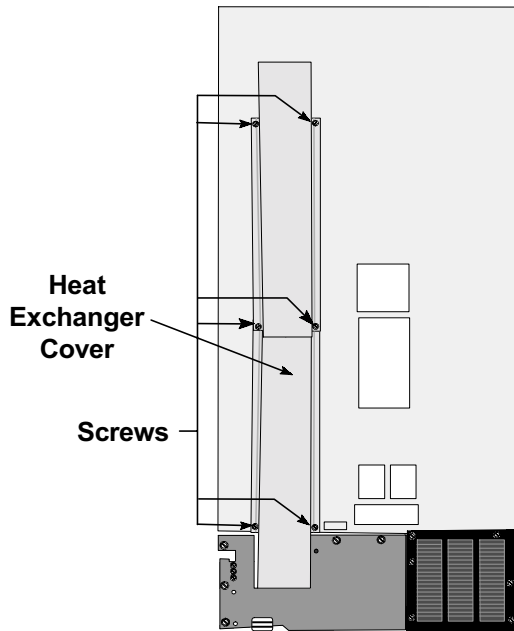

Fig. 10
The heat exchanger and wiring harness are located under the metal cover on the back of the cabinet. Remove the six (6) screws securing the cover to the back of the cabinet. (Fig. 10 & 11)